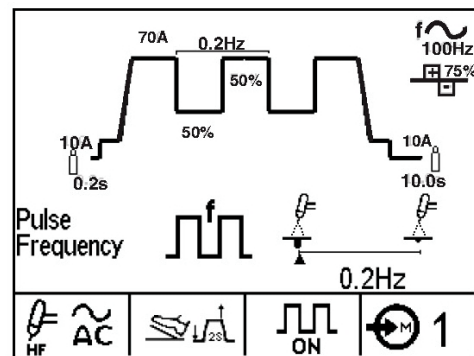

Figure B.4c
- Pulse TIG (See Figure B.4c)
2. The **Parameter Display Section** shows the selected parameter its display icon and preset value. To change the value, rotate the push button/rotary encoder. Some parameters like AC Frequency have an Enhanced Icon Display that shows the effect of the varying parameter on the arc and/or weld bead profile. As these parameters are adjusted an indicator will move between the minimum and maximum icon to show the relative effect of that parameter. Pulse Frequency shown in Figure B.4c is an example of the enhanced icon display. Refer to Table B.1 for a list of Enhanced Icons.